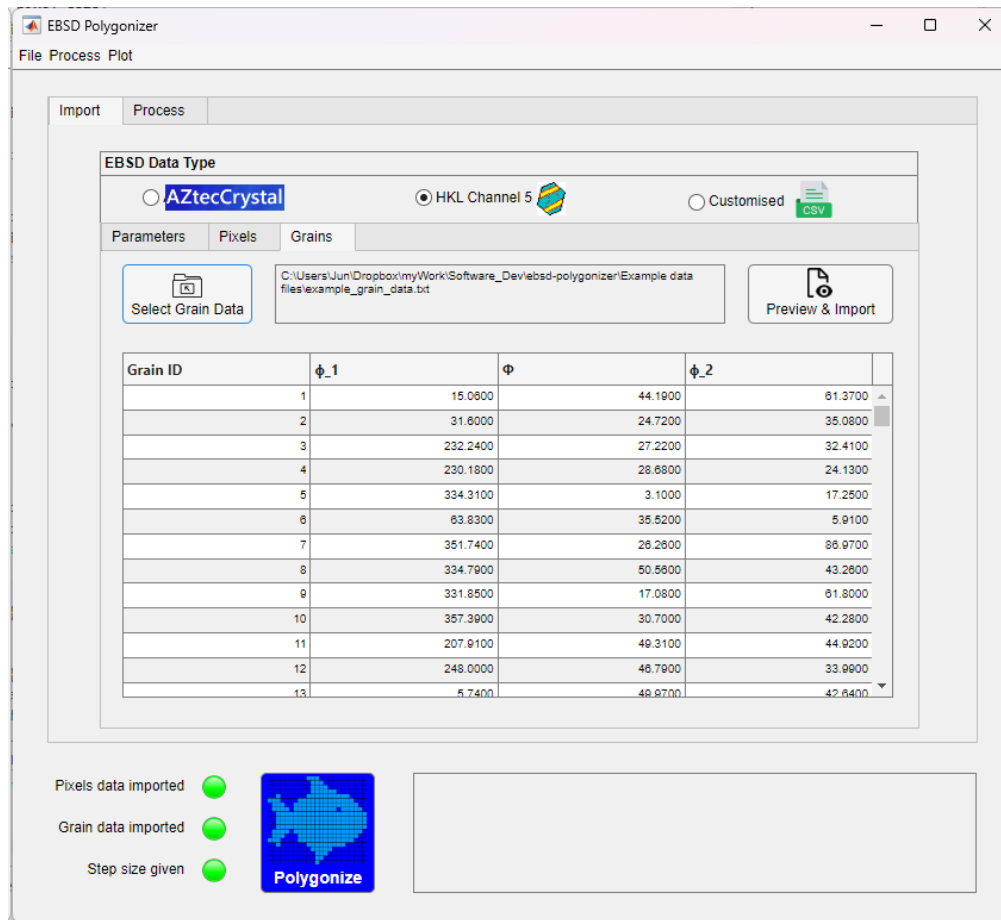

Figure 1.6: Import grain data file
7. Select grain file to import ensuring the **Grain data imported** indicator turned green (See Figure 1.6).